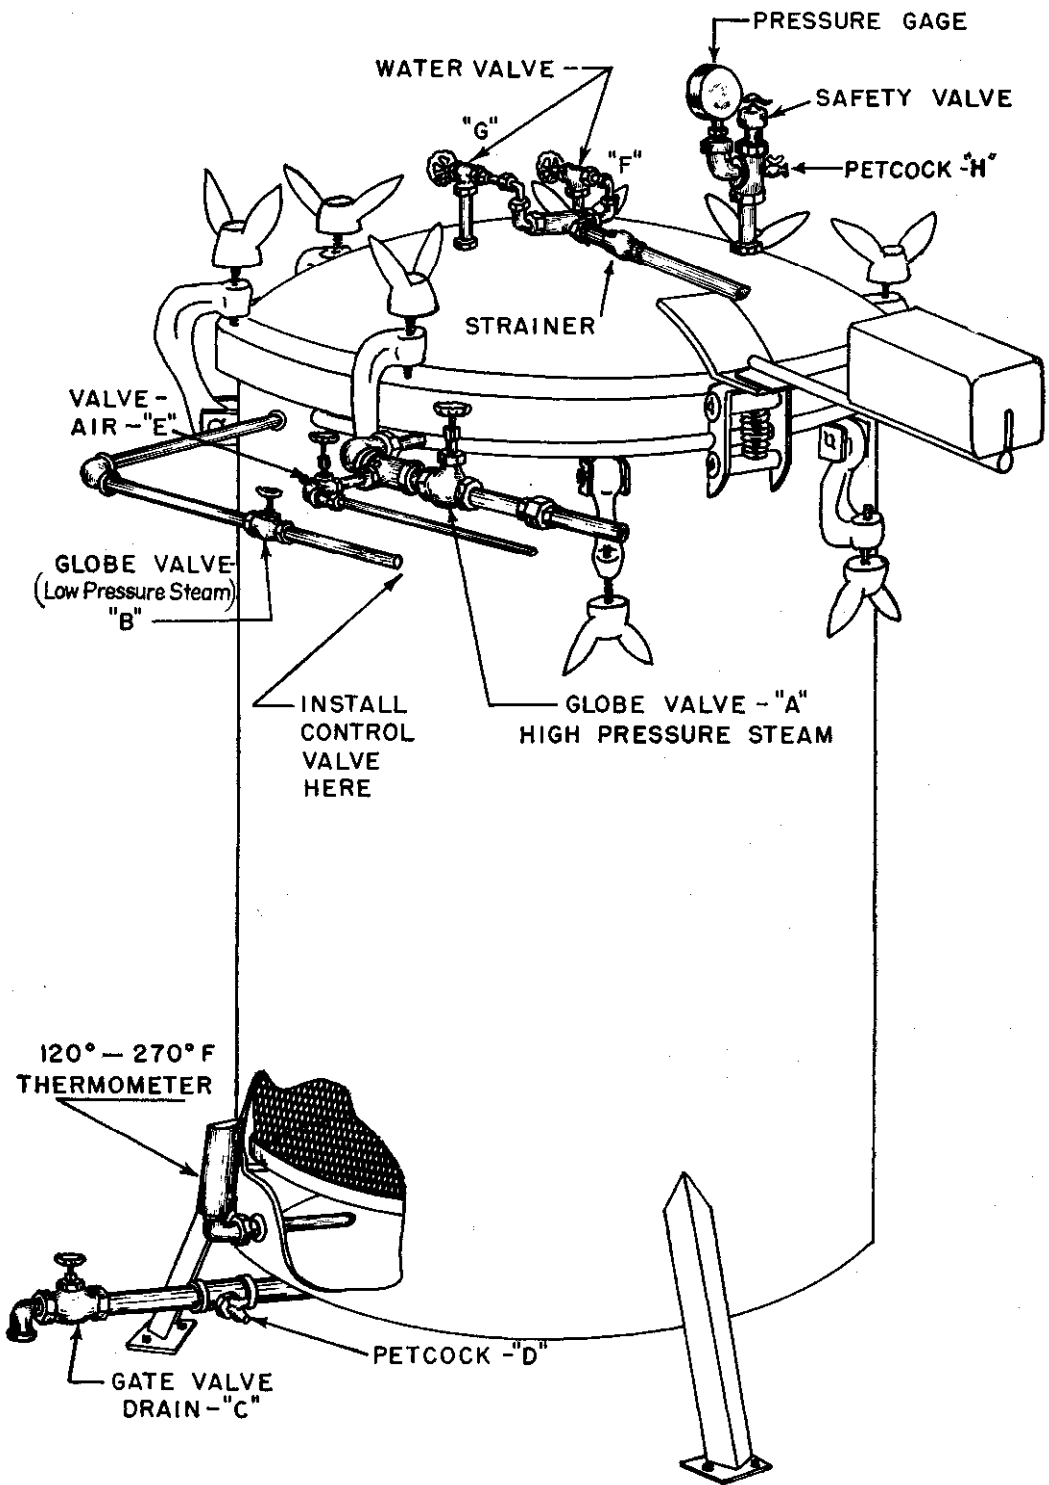

Figure 15.—Retort showing valves used during operation.
1. *Open water valves F and G (fig. 15) to see that nozzles in lid are working properly.*—All nozzles should give off a uniform cone-shaped mistlike spray. If the spray is not uniform the nozzles are clogged and need to be cleaned before processing is started. (For instructions on cleaning nozzles, see p. 14.)